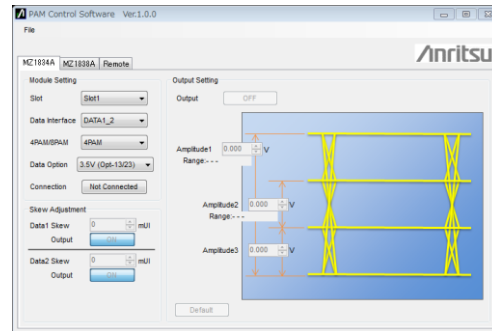

Fig.5 Output setting
- 2) Each PPG output is set. The output amplitude for each of Data1 to Data4 is set and the Delay is set to minimize the waveform jitter after signal coupling. The PAM Control Software enables easy setting of swing amplitude and EYE proportion (Fig.5).